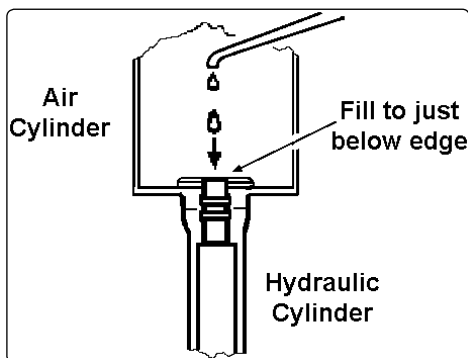

fig. 3
- 4.1.4. Add hydraulic oil to hydraulic cylinder until level is just below junction with air cylinder, see fig. 3.